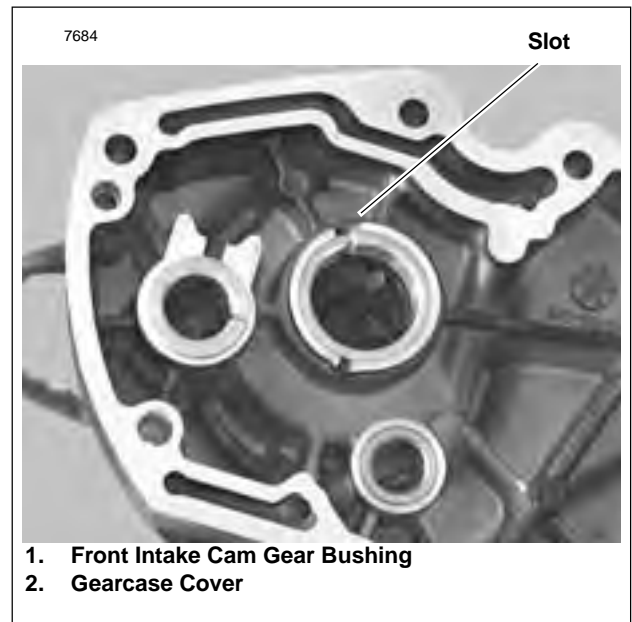

Figure 3-105. Rear Intake Cam Gear Bushing Installed in Gearcase Cover
1. See Figure 3-105. Position bushing over bore of gearcase cover with chamfered edge downward and slot upward. Align slot in bushing with slot in gearcase cover boss. Press bushing into cover bore until bushing is flush with cover boss.